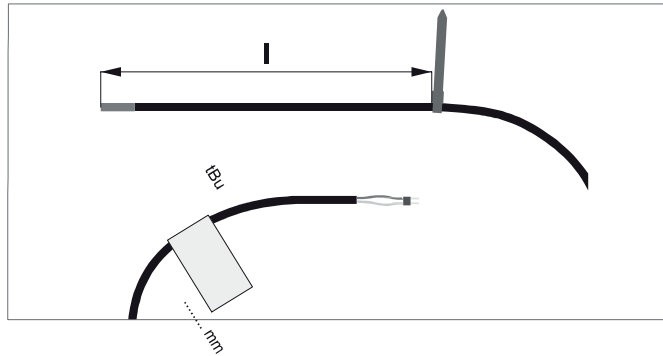

Fig. 3-1 Determining the insertion depth of the sensor and sensor labelling
- Mark and make a note of the insertion depth or position of the temperature sensors in the sensor channel or sensor terminal block. Label the sensors according to their function (Fig. 3-1).
- Fix the sensor in position in the sensor channel, e.g. using plastic ties or cable ties (Fig. 3-1).